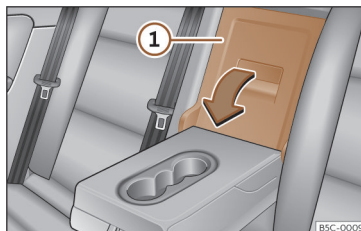

Fig. 123 In the rear seat backrest: opening the trapdoor.
- Pull the release lever in the direction of the arrow and push the tailboard cover >>> **Fig. 123** down and forwards.